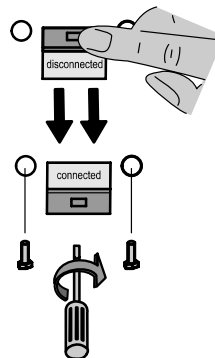

Figure 3. Connecting the Internal Battery Connector
3. Slide the battery connector so that you can read **Connected** (see Figure 3).